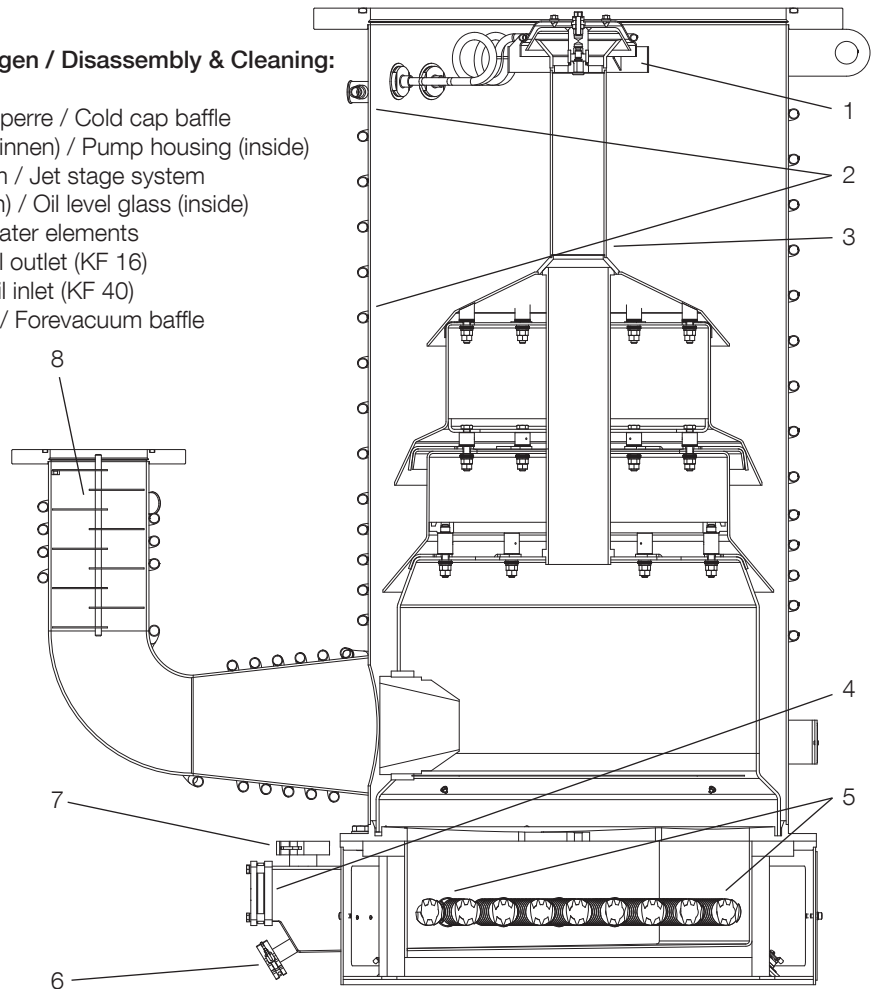

Fig. 12b Sectional drawing of a DIJ pump
- Dismantle all parts of the pump that have been in contact with the pump fluid (cf. Fig. 12b).